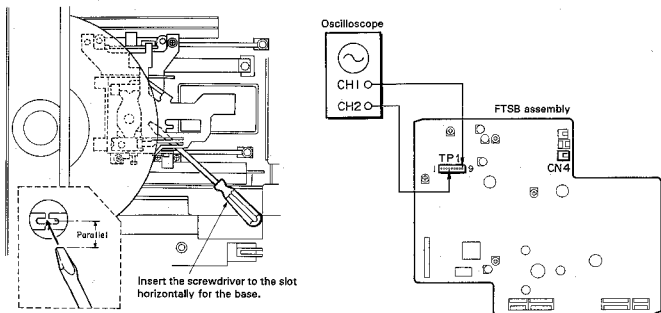

Fig. 9-1
3. Insert the flat-bladed small screwdriver into the grating adjustment hole, and fine adjust the grating so that the Y-axis dimension of the Lissajous waveform becomes minimum. (Fig.9-1)
4. Select the X-input (CH1) of the oscilloscope, and check that the positive (A) and negative (B) amplitudes of the TRKG error signal are equal. (Photo 10)